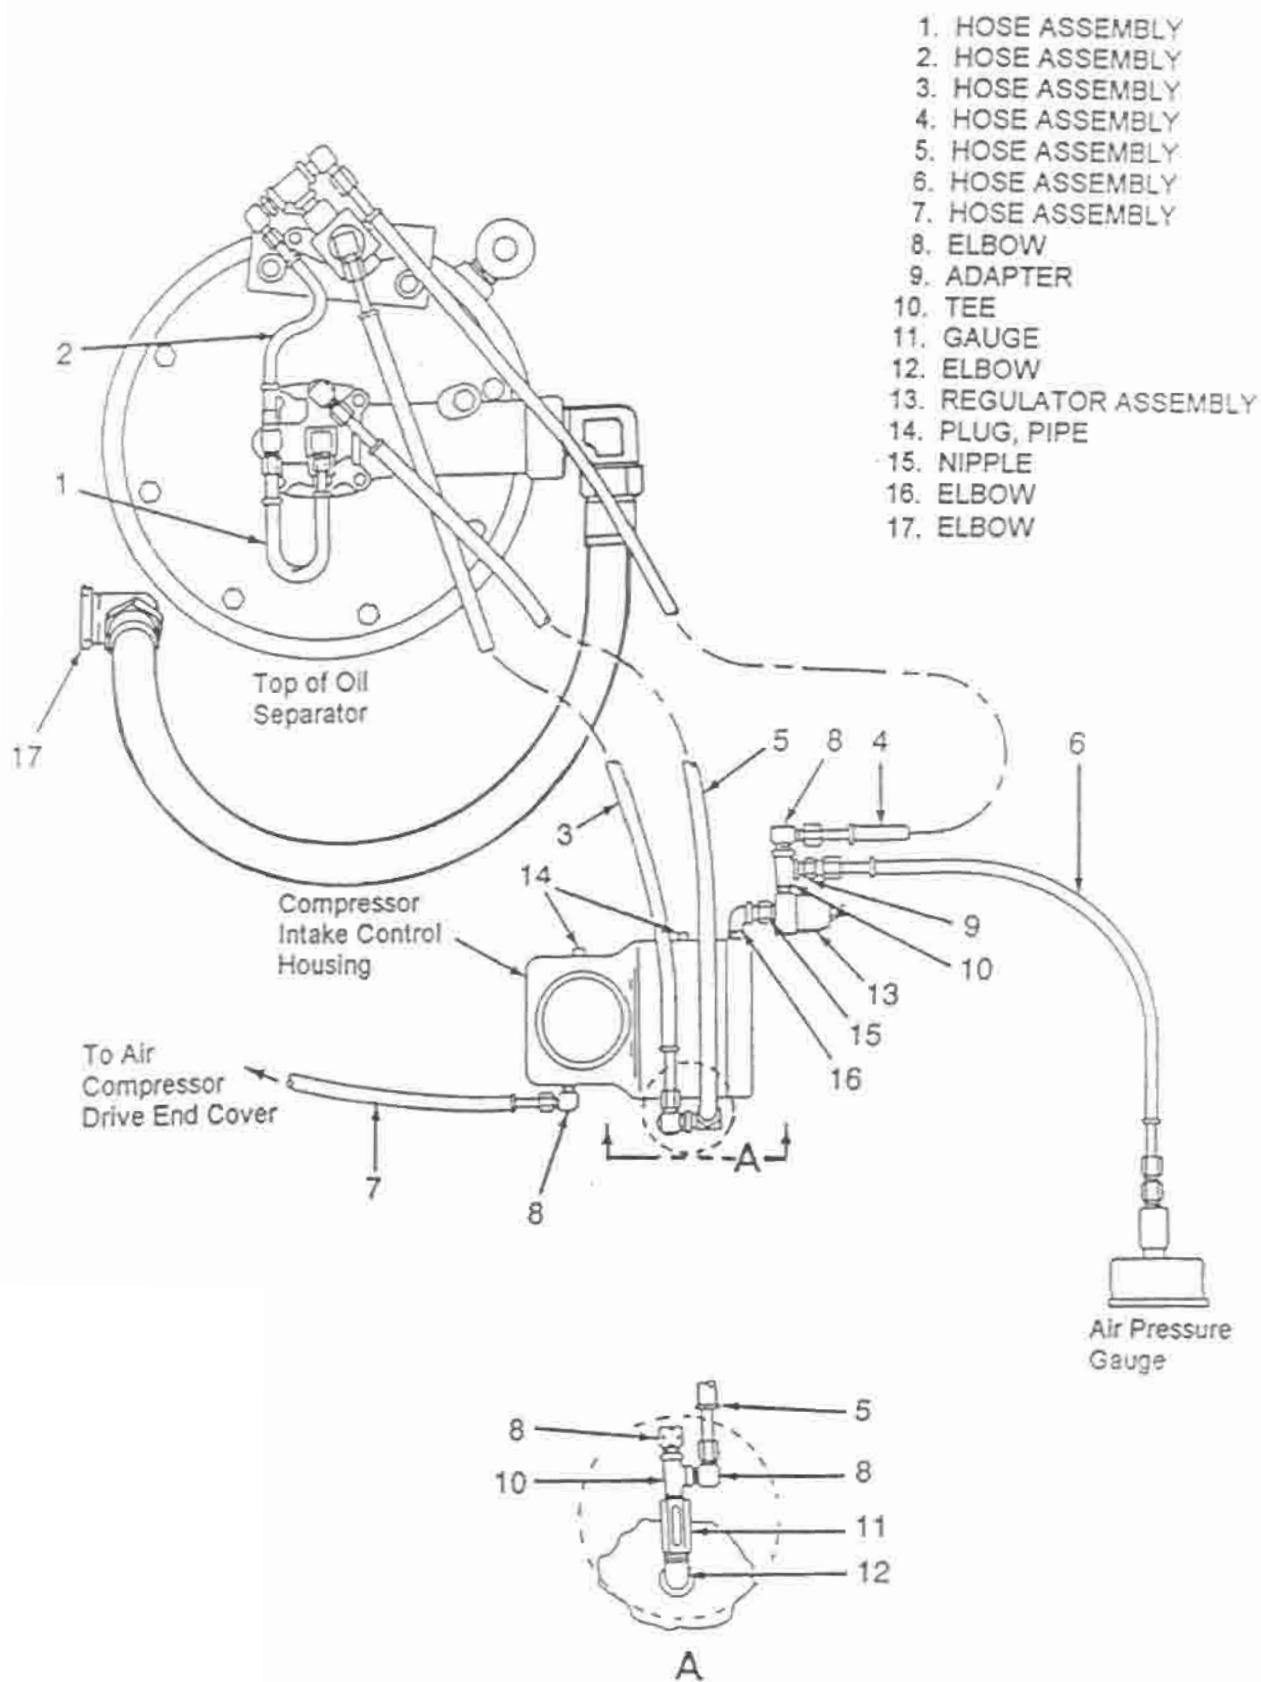
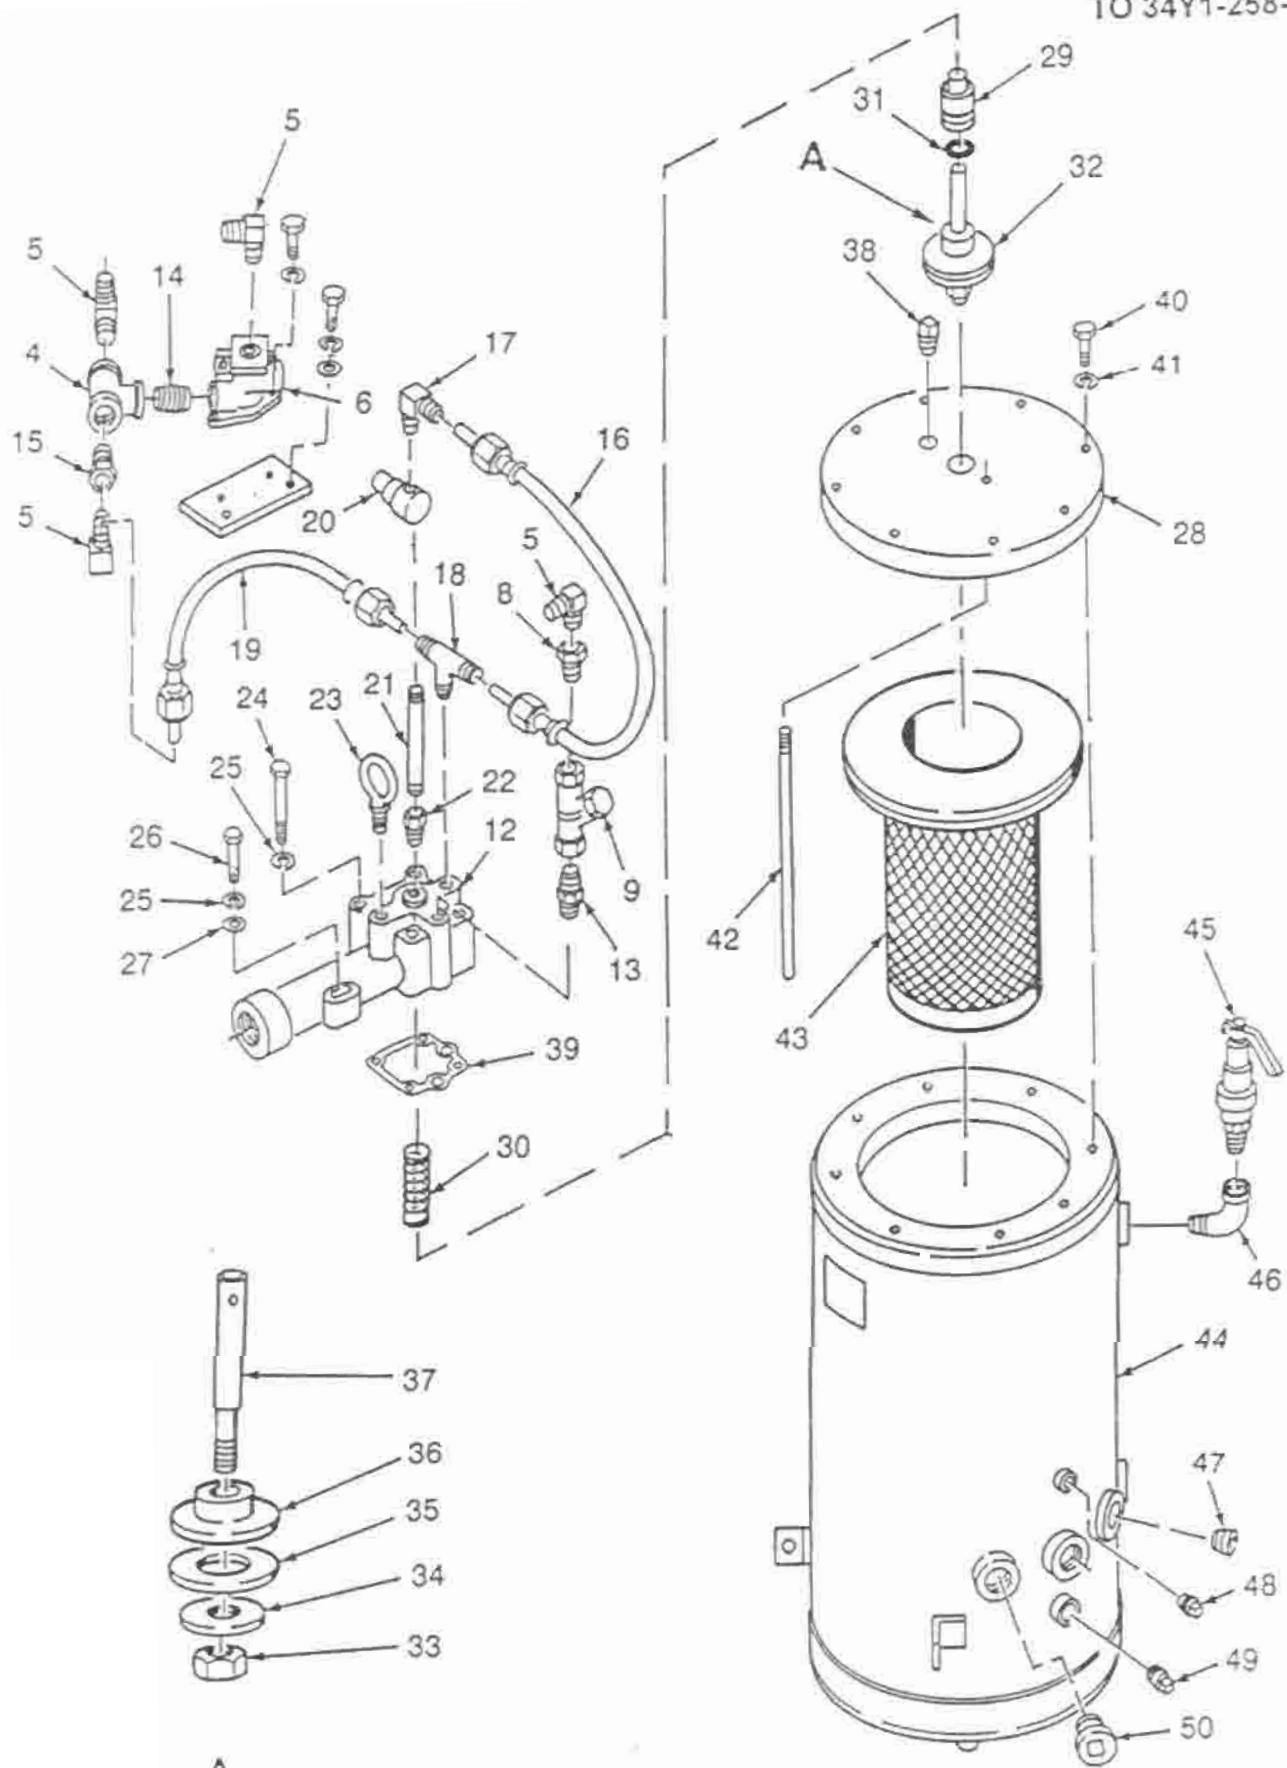

Figure 3-9. Oil Separator Assembly Removal
Figure 3-10. Oil Separator Disassembly
3-19. Air Compressor Assembly Removal (Refer to Figure 3-11). Remove roof assembly as necessary (para 3-11). Disconnect air hoses (3, 5, and 7) as follows, (Figure 3-9):
3-20. Oil Separator Assembly Removal (Figure 3-9).
- Make certain that all air pressure is relieved from air system by opening air service valves at manifold (7, Figure 3-5) and by lifting safety air relief valve (45, Figure 3-10).
- Remove manifold and service piping from oil separator minimum pressure valve housing (see Figure 3-10).
- Remove blowdown valve assembly (6, Figure 3-10) as follows:
- Mark and remove hose (2, Figure 3-9) from blowdown valve (6, Figure 3-10).
- Mark and remove two hoses (3 and 4, Figure 3-9) from blow valve tee (6, Figure 3-10) and remove tee from blowdown valve housing; remove elbows (5), nipple (14) and bushing (15, Figure 3-10).
- Remove blowdown valve (6) from minimum pressure valve housing (12, Figure 3-10).
- Mark and remove hose (3, Figure 3-9) from "Y" orifice elbow (5, Figure 3-10). Remove elbow (5), orifice (8), strainer (9) and nipple (13) from housing (12, Figure 3-10).
- Remove elbow (4, Figure 3-15), from bottom of separator body (44, Figure 3-10).
- Remove nipple (5, Figure 3-15) from side of separator body (44, Figure 3-10).
3-21. Oil Separator Disassembly (Figure 3-10). After removing oil separator from compressor until (para. 3-19), disassemble oil separator as follows:
KEY TO FIGURE 3-10